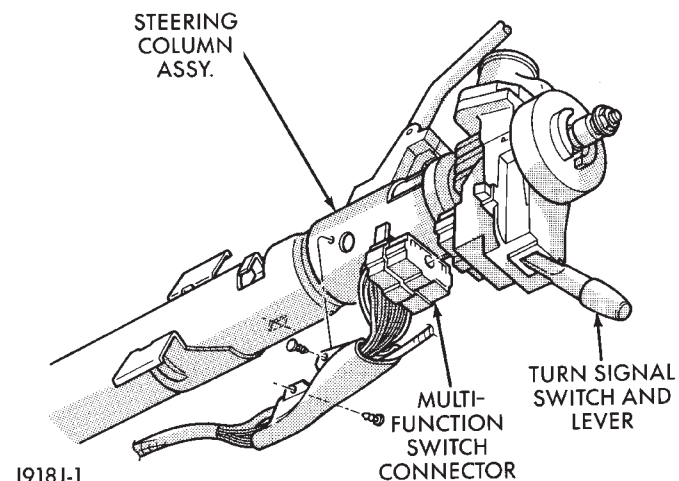
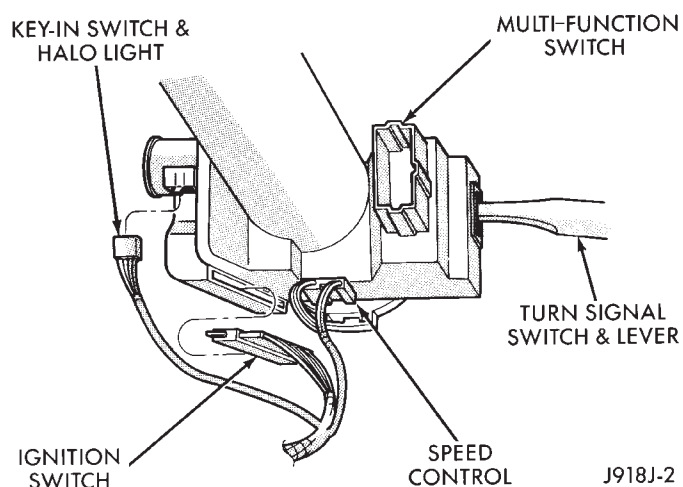

Fig. 29 Multi-Function Switch Connector - Typical
Fig. 30 Steering Column Connectors - Typical
(12) Remove the lower fixed column shroud.
(13) Move the upper fixed column shroud far enough to access the rear of the multi-function switch (Fig. 29).
(14) Remove the tamper proof mounting screws (a Snap On tamper proof torx bit TTXR20B2 or equivalent is required) that secure the multi-function switch to the steering column.
(15) Gently pull the switch away from the steering column far enough to access and loosen the multi-function switch wire harness connector screw. The screw will remain in the wire harness connector.
(16) Unplug the wire harness connector from the multi-function switch.
(17) Unplug the remaining steering column wire harness connectors (Fig. 30).
(18) If the vehicle is so equipped, unplug the over-drive lockout switch wire harness connector near the instrument panel lower reinforcement.